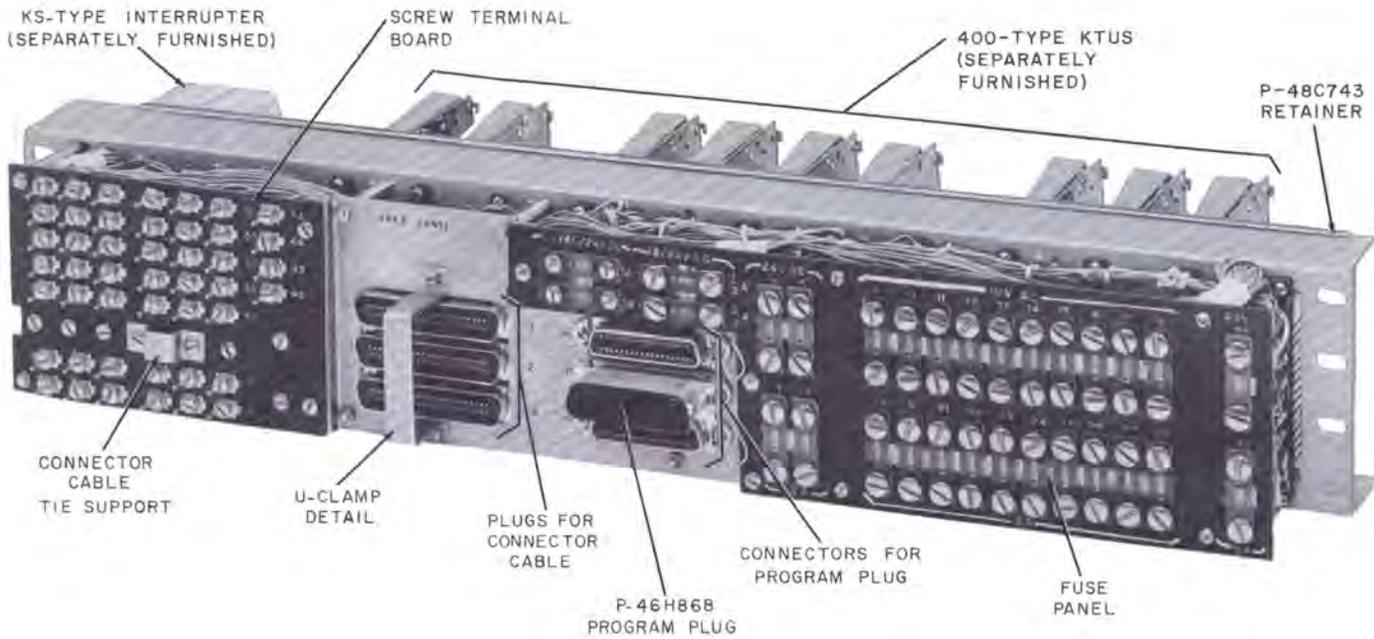

Fig. 3 — 584B Panel, Rear View
2.09 The 584B panel (Fig. 3) is similar in capacity and function to the 584A panel. Neither the 400-type KTU line circuits nor the KS-interrupter are supplied with the panel. Principal features include:
- 2.11** All line and station wiring is factory wired from the receptacles to three 50-contact KS plugs numbered 1, 2, and 3 (Fig. 3) on the